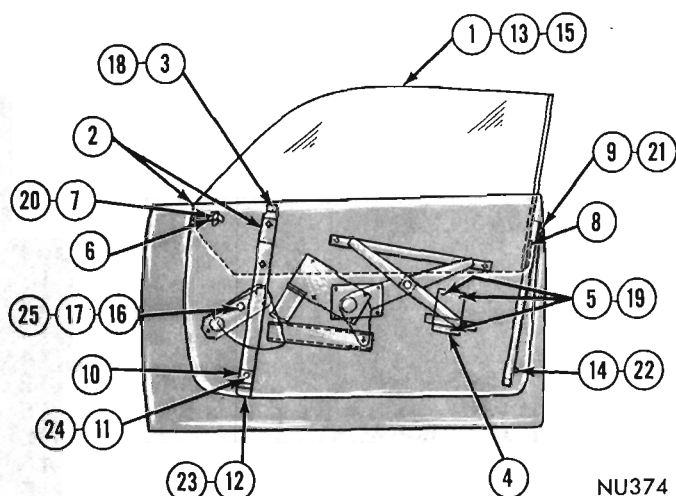

Fig. 1 - Glass Adjustments 2 Door Hardtop - Ventless
Adjustments-Ventless Door (Fig. 1)
(16) Position stop on regulator plate against stop on sector.
(17) Tighten regulator plate stop locknut. Tighten callouts 18 through 25 securely. (Fig. 1).